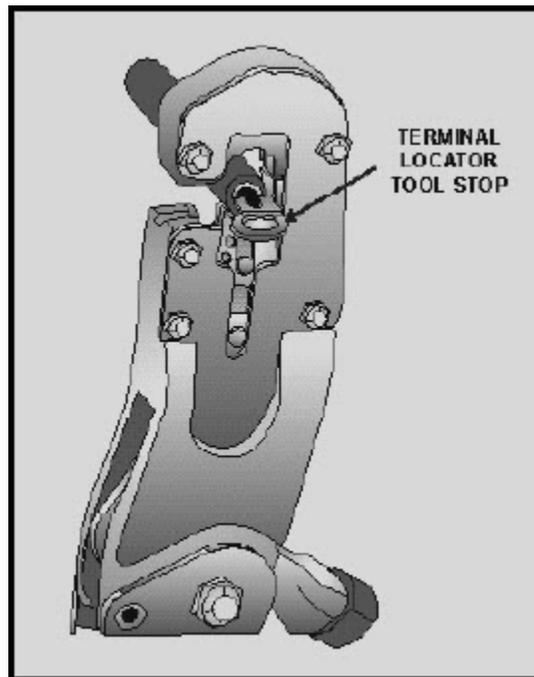

Figure 2-21 Crimping tool with terminal lug inserted
3. Insert the terminal lug, tongue first, into the wire side of the hand tool barrel crimping jaws. Be certain the terminal lug barrel butts flush against the tool stop on the locator. See figure 2-21 for the correct insertion method.